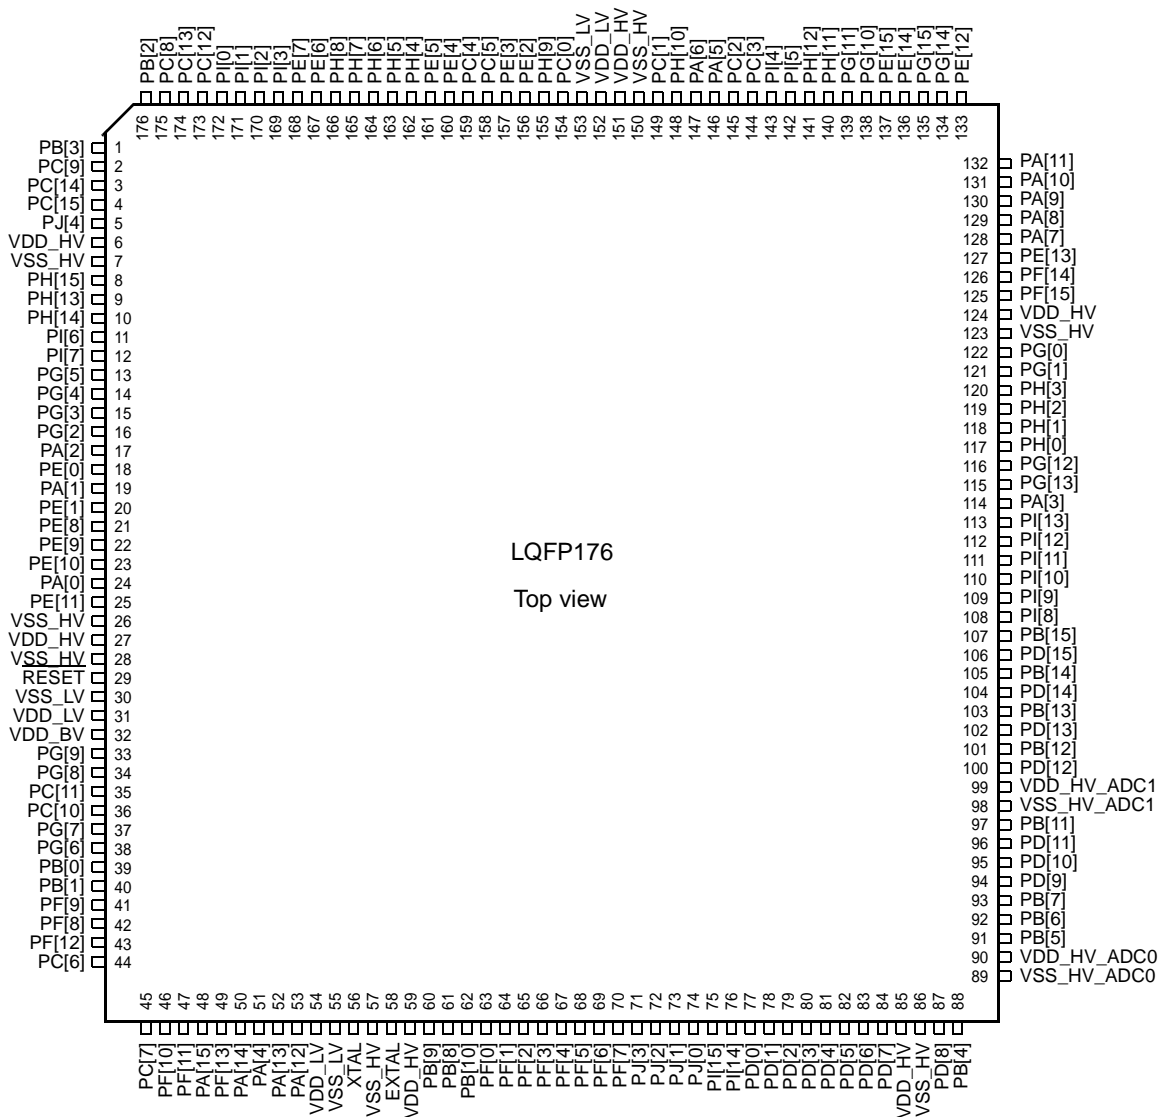

Figure 2. LQFP176 pin configuration
*Figure 2* shows the SPC560B54/6x in the LQFP176 package.